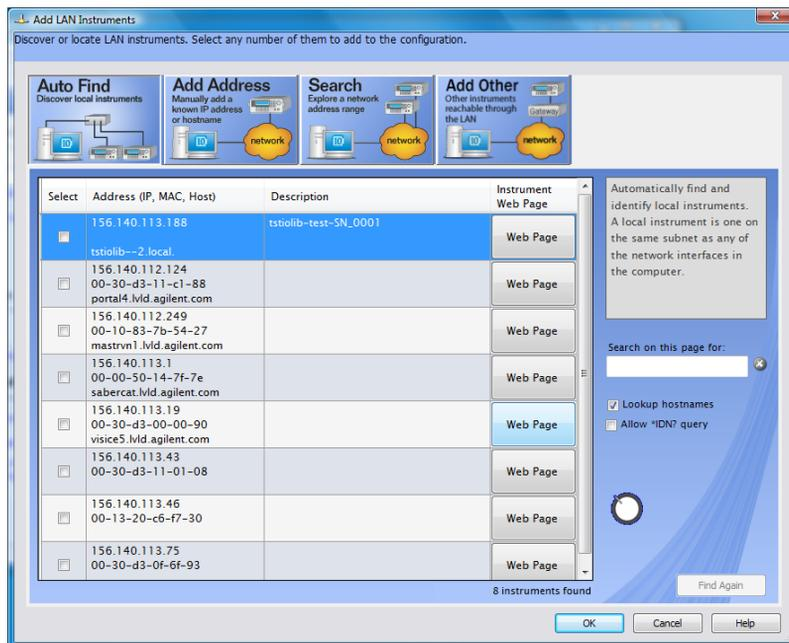

Figure 31 Add LAN Instruments Auto Find Dialog Screen
- 2 This opens the Add LAN Instruments dialog box (see Figure 31). The **Auto Find** tab is preselected.